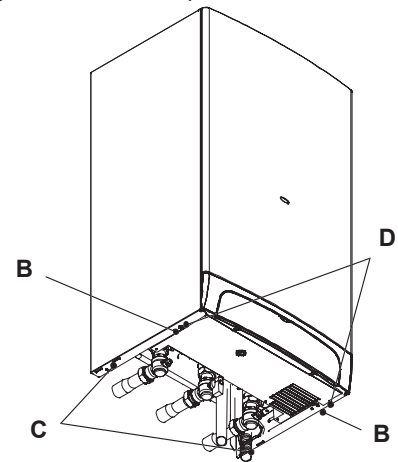

Figure 2.3 - Bottom view of the boiler
To remove the side panels loosen the screws B and C (Figure 2.3), bring the base of the panels away from the boiler and lift them, freeing them from the top hooks.
- 2 Loosen the screws B and C (Figure 2.3).